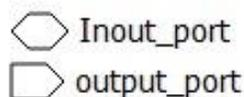

**Figure 2.49. Create Port Dialog Box**
- a. Right-click in the Schematic view, and choose **Create Port**. The Create Port dialog box pops up (Figure 2.49).